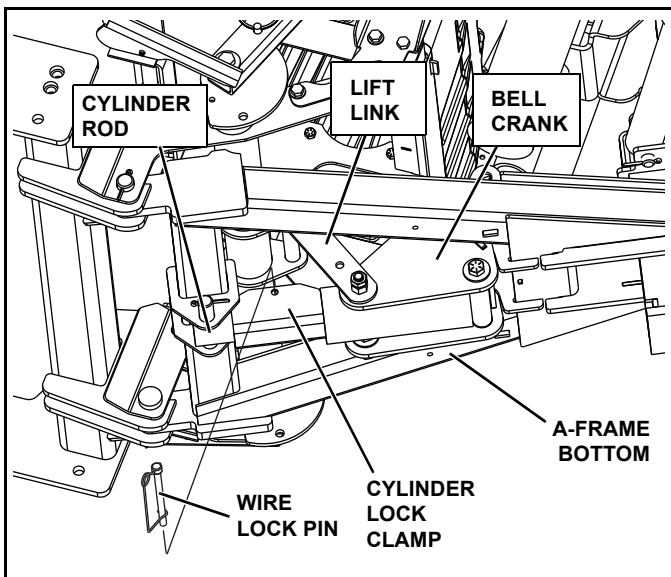

Figure 1-21
5. Position the cylinder lock clamp around the exposed (chrome) portion of the lift cylinder with the open side of the cylinder lock up. Install the pin. (See Figure 1-21.)